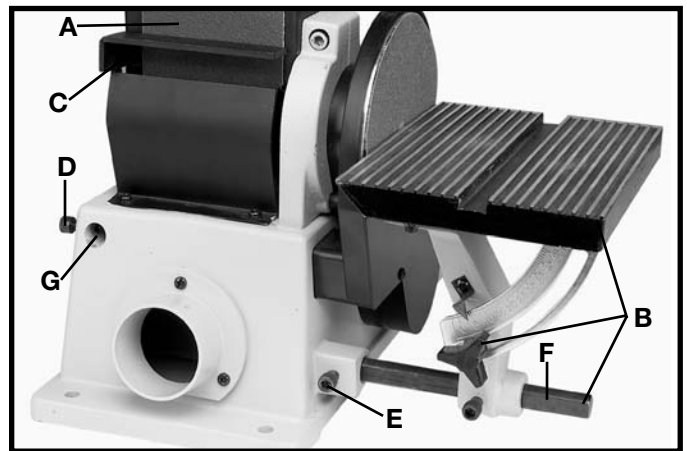

Fig. 36
When the sanding arm (A) Fig. 36, is used in the vertical position, the complete table assembly (B) can be moved from the disc unit to the belt unit as follows:
2. Remove the backstop (C) Fig. 36.
3. Thread the M8x1.25x20mm hex socket head screw (D) Fig. 36, into base casting as shown. **NOTE:** Only thread screw (D) partway into base casting.
4. Loosen screw (E) Fig. 36, and remove table assembly (B) from disc unit. Insert bar (F) into hole (G) on belt unit and tighten screw (D).